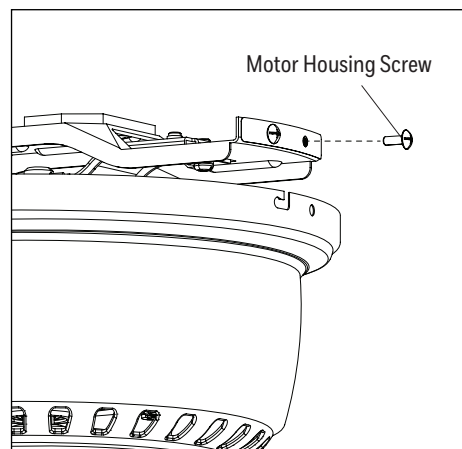

Figure 4.2
- Temporarily lift the motor housing to the mounting bracket to determine which two motor housing screws in the sides of the upper mounting bracket align with the slotted holes in the top edge of the motor housing. Partially loosen the two motor housing screws that align with the slotted holes. Remove the other two motor housing screws from the opposite sides of the mounting bracket (Figure 4.2).